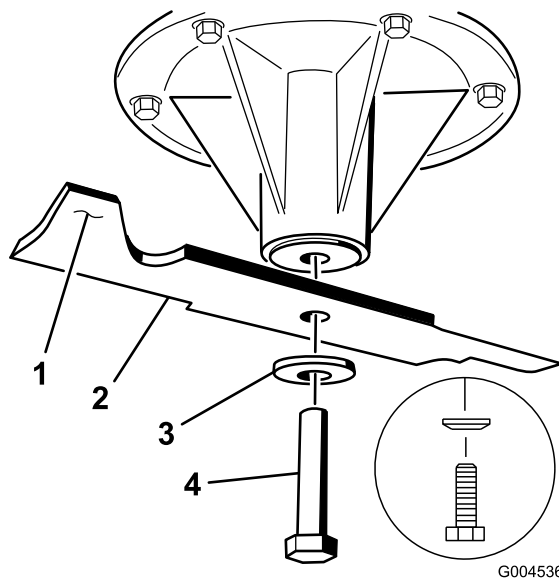

Figure 95
2. Remove the blade bolt, the curved washer, and the blade from the spindle shaft (Figure 95).